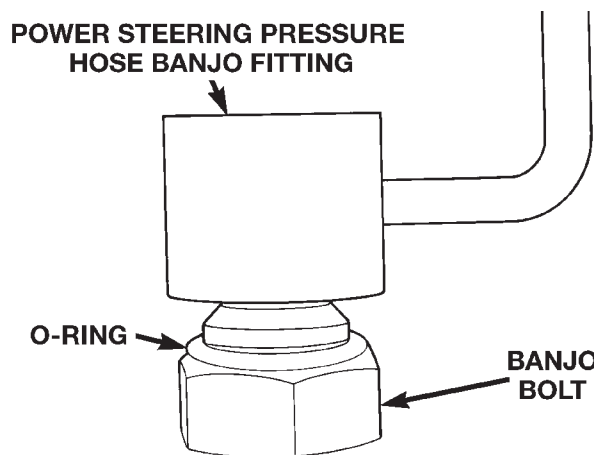

Fig. 41 O-Ring Installed On Banjo Fitting Bolt
(6) Install a new O-ring on the power steering pressure hose banjo fitting bolt (Fig. 41).
(7) Lubricate both O-rings using fresh clean power steering fluid.